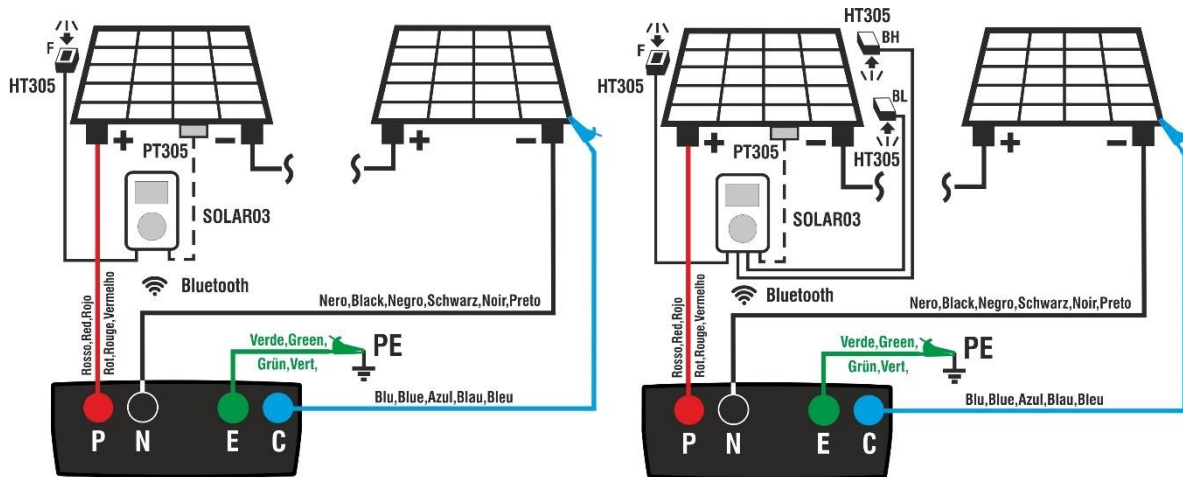

Fig. 11: Connection of SOLAR03 in direct connection on Mono/Bifacial PV modules
2. Connect the instrument to the PV module/string being tested and to the main earth node of the system, and to the metal masses connected to earth as shown in Fig. 11. In detail:
- **In case of Bifacial modules** → position the **3 reference cells HT305** onto the front surface of module (**F**), onto the back top part (**BH=BackHigh**) and onto the back bottom part (**BL=BackLow**) of the module. Connect the front reference cell (F) to input “**INP1**”, BH reference cell to input “**INP2**”, BL reference cell to input “**INP3**” and **possibly** the temperature probe **PT305** to input “**INP4**” of the remote unit. In accordance with the IEC/EN60904-1-2 standard, the instrument calculates the equivalent front-side Irradiance (**Irreq**) value, which corresponds to the Irradiance on the front surface only, which produces the same effects as the Irradiance measured on both sides, considering the **bifaciality factor** ( $\varphi$ ) of the module according to the following relationship: